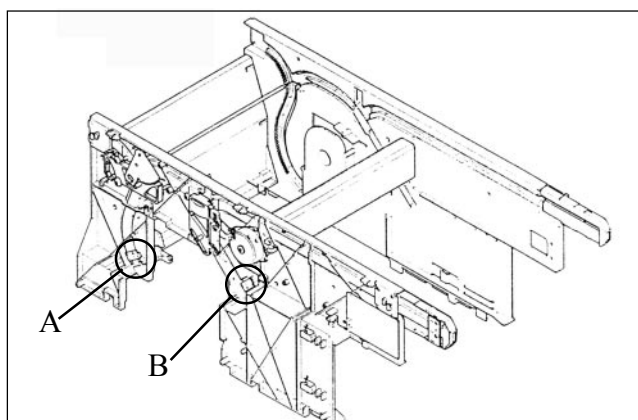

Figure 5-11. The location of the home (A) and the reject (B) sensors
1. Locate the home position sensor (Callout A in Figure 5-11) and the reject sensor (Callout B in Figure 5-11).